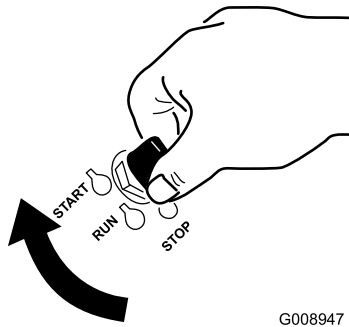

Figure 16
1. Turn the ignition key to the Start position (Figure 16). When the engine starts, release the key.
- Turn the ignition key to the Start position (Figure 16). When the engine starts, release the key.